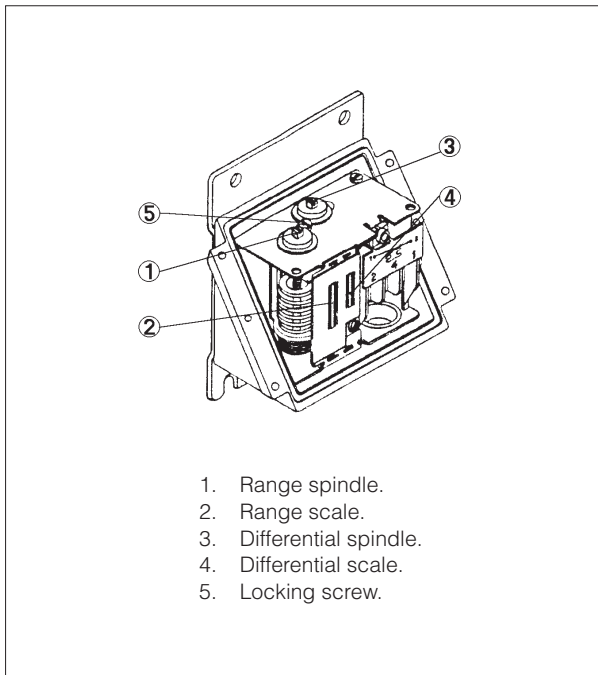

Fig 1.
1) When the pressostate cover is removed and locking screw pos. 5, *fig 1* is loosened, the range can be set with the spindle pos. 1 while at the same time the scale pos. 2 is read.